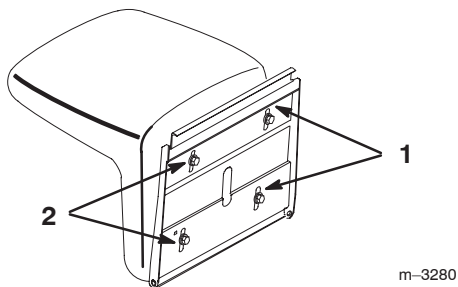

Figure 16
2. Loosen the seat mounting bolts slide seat to the desired position in the adjusting slots, and tighten the mounting bolts (Fig. 16).